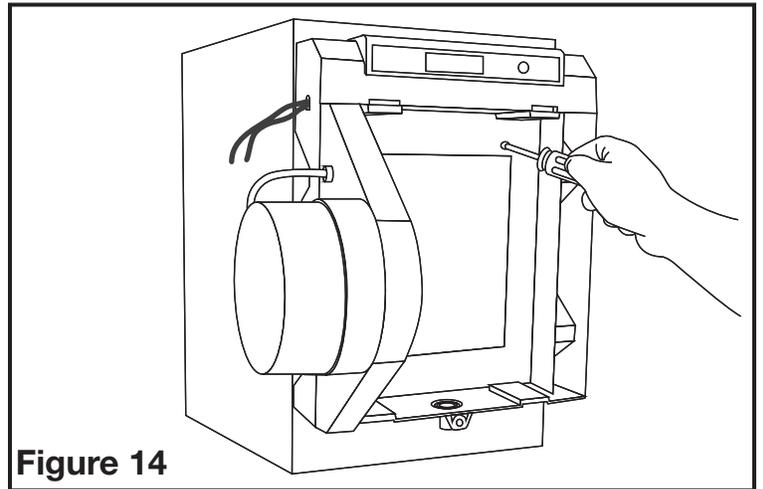

Figure 14
5. Mount the humidifier cabinet on the duct with 4 of the screws from the installation package. Level the humidifier before tightening the screws (**Figure 14**).